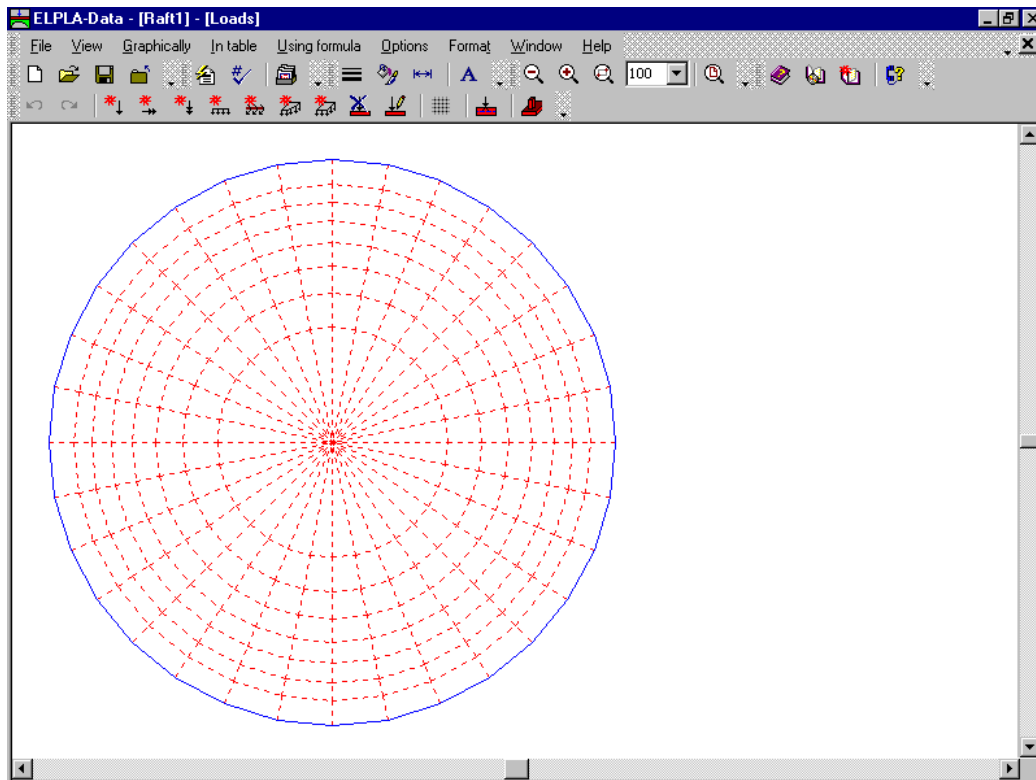

Figure 3-24 "Loads" embedded program
To define the loads, choose "Loads" command from "Data" menu of *ELPLA-Data* window. The following embedded program in Figure 3-24 appears.
- Choose "Point loads" command from "In Table" menu in the window of Figure 3-24. The following list box in Figure 3-25 appears